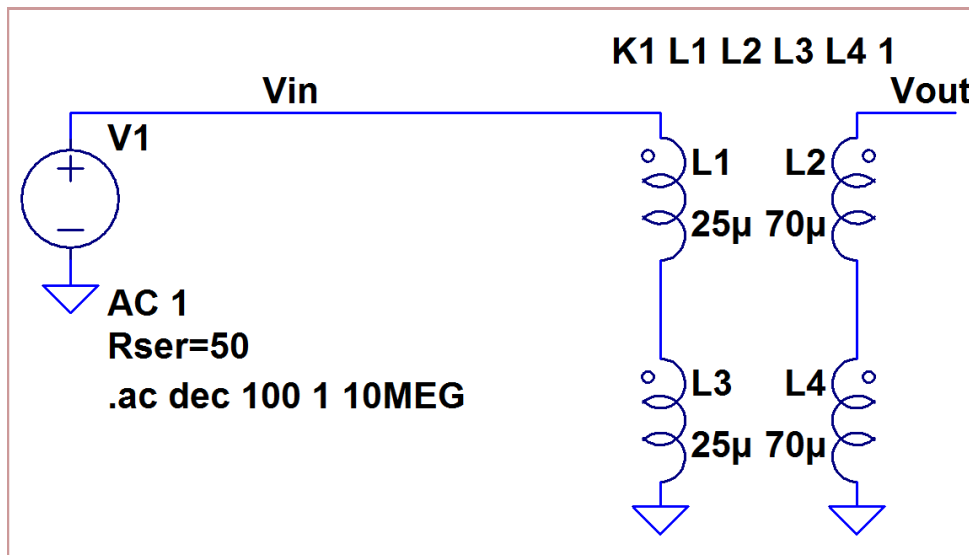

Figure 20. Modeling the frequency response of a pulse transformer.
1. Simulate the schematic shown in Fig. 20. This represents a very simple model of the pulse transformer we will be using in the lab. The small values of the inductors result in a roll-off at low frequencies. What is the -3dB frequency? This is defined from whatever the voltage gain of the transformer is. If the flat portion of the frequency response is at 4 dB, the -3dB frequency will be found at the frequency where the amplitude is 1 dB. This simple model provides a value that is quite off from the measured value on the datasheet but it provides an intuitive understanding of how the inductance of the coils affects the lower frequency limit. **(Plot, Answer)**